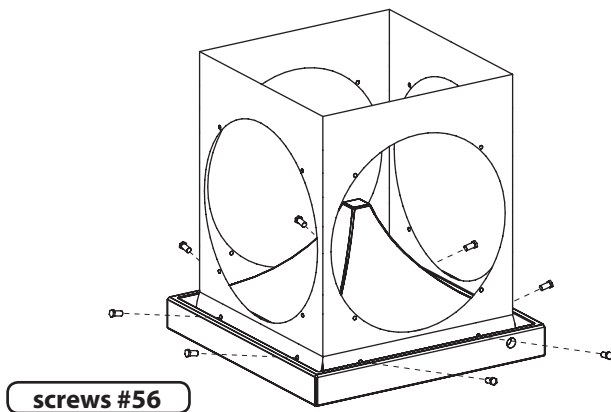
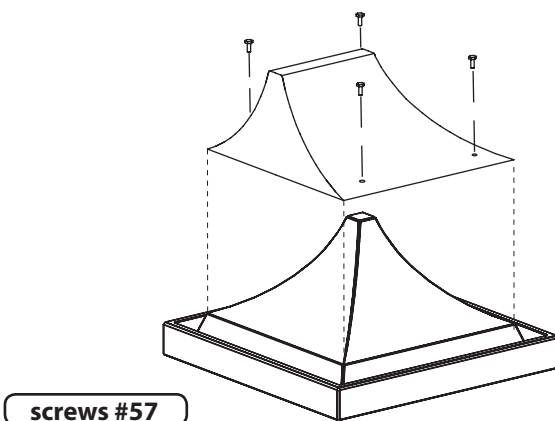
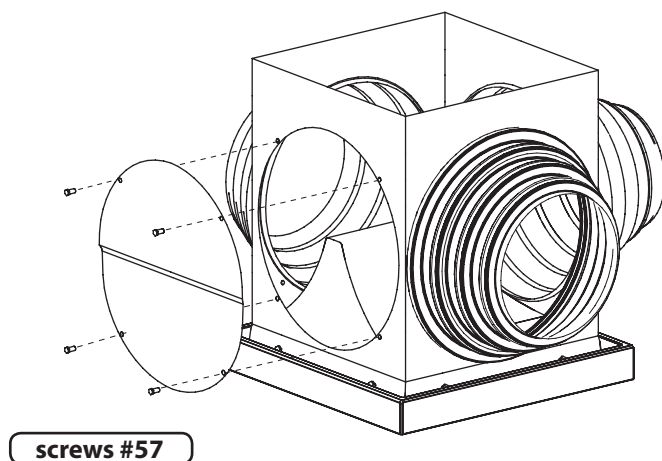

Fig. 2) Duct Secured to Internal Drip Tray & Air Diverter with screws #56.
Fig. 3) Air Diverter and Internal Drip Tray (#77) with Chock (#78)
Fig. 4) Blanking Plate (#81) and spigots are to be held into place with plastic rivets.
- Place Stainless Steel Duct (#75) onto the Air Diverter and secure with screws provided (Fig 2.) (Screws #56)
- At this stage, you must decide how many sides of the Duct you will be using (how many outlets). For 4 outlets, refer to Fig. 2. Where only 3 outlets are required, refer also to Fig. 3 and Fig. 4. for installation of the Chock and Blanking Plate.
Using the Chock provided, block off the unused side. Using a 6.6mm drill bit, drill 4 holes through the Chock and Air Diverter as shown in Fig. 3.
3-way blanking plate is also included in the DDK2 kit. This plate is used when 3 outlets are required. The Blanking Plate (Fig. 4) has a pivot section in the centre. Slide the narrow diameter into the ducting and pivot upwards, aligning predrilled fixing holes and fixing with the 4 plastic rivets provided (#57).